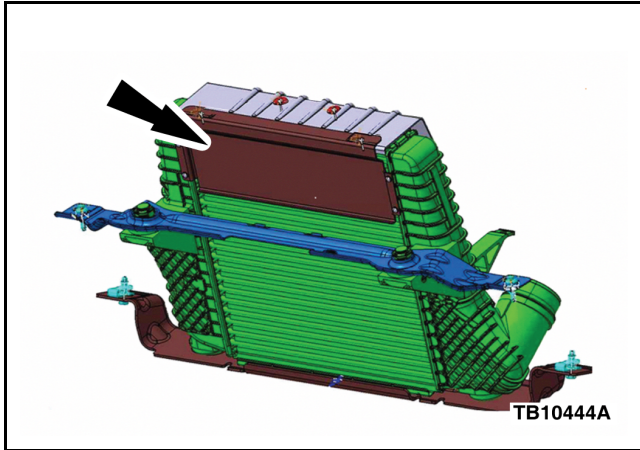

Figure 3 - Article 13-8-1
- 6. Is the Charge Air Cooler equipped with the top air deflector? (Figure 3)